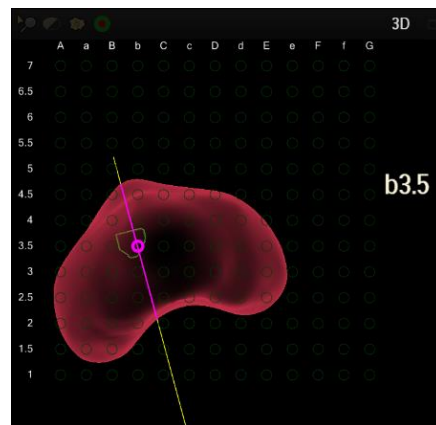
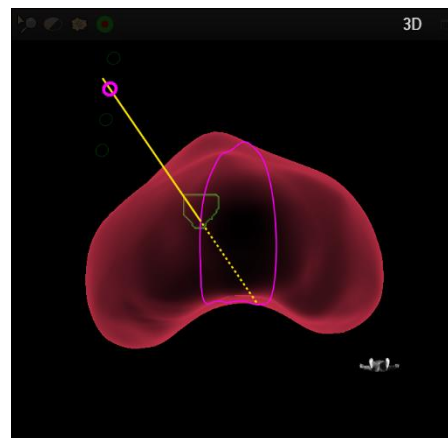

Figure 59: Transperineal Navigation with Grid Plate Overlay (Intersecting U/S Imaging Plane)
Figure 60: Transperineal Navigation with PrecisionPoint™ Transperineal Access System option (Intersecting U/S imaging plane and target)
2. Rotate the TRUS transducer. Use the projected ultrasound plane intersection in the 3D viewport (Figure 59 and Figure 60) to view the target in the ultrasound image. Navigation is easily achieved by rotating the transducer in the transperineal Stepper assembly. Use the color-coded guidance bars in the Live viewport to locate the target location (see description in 9.5.3).